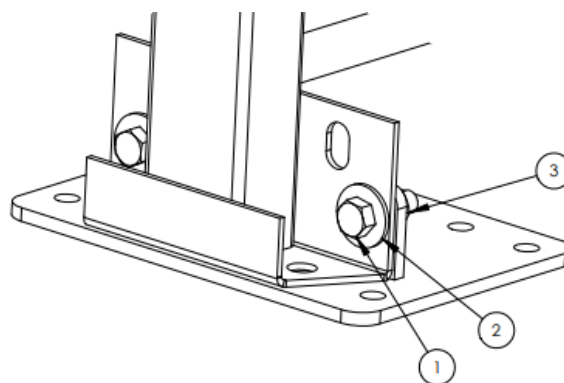

Figure 1.3: Attaching U-Bolt Mounting Plate
Holding U-Bolt plate up to gantry foot, insert 5/8"-11 x 2" grade 8 bolts (1) with washers (2) through the bottom set of holes of the gantry feet. See *Figure 1.3* for orientation.